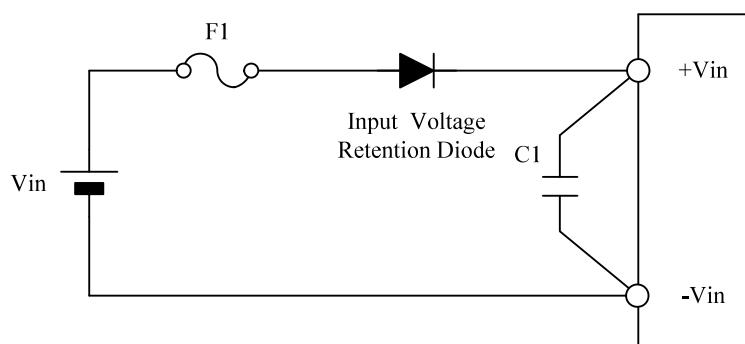

Fig.5-6 Protection of Instantaneous Input Voltage Drop
- Note) When instantaneous drop of input voltage occurs, output voltage might become unstable. In particular, in the case of input voltage recover before output voltage drops to 0V after the input voltage instantaneous drop, the output voltage may overshoot. In this case, it is possible to stabilize the output voltage by attaching input voltage retention diode and capacitor C1 as shown in Fig.5-6. The appropriate capacitance value of C1 is influenced by load factor used, capacitance of capacitor connected to output side and expected time that dips or short interruption. Please choose it by pre-evaluation sufficiently on actual system. Use input voltage retention diode with higher current rating than fuse current rating.
Please consider to connect the protection circuit as shown in Fig.5-6 if there is a possibility that instantaneous drop of input voltage might happen.